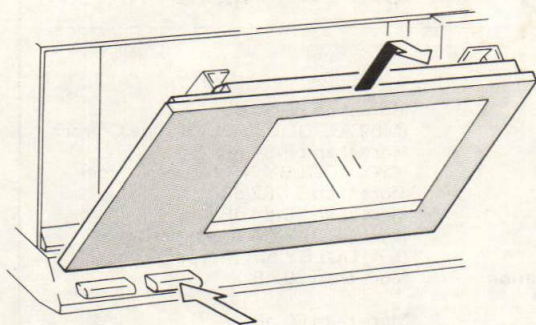

Fig. 2
- 1) After depress eject button to open cassette box, pull cassette lid to remove in the direction of arrow. (See figure 2)